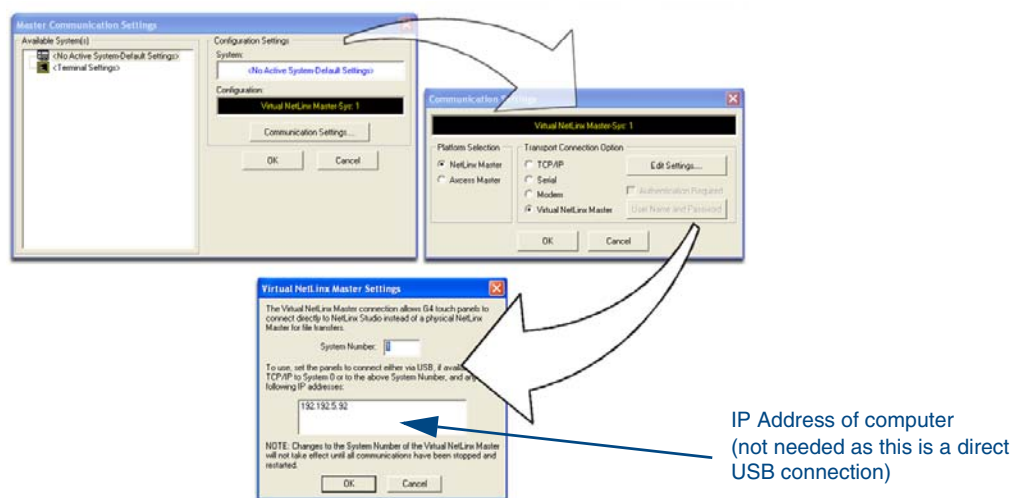

FIG. 39 Assigning Communication Settings for a Virtual Master
2. In NetLinx Studio, select **Settings > Master Communication Settings**, from the Main menu to open the Master Communication Settings dialog (FIG. 39).
6. Click the **Edit Settings** button to open the *Virtual NetLinx Master Settings* dialog (FIG. 39).